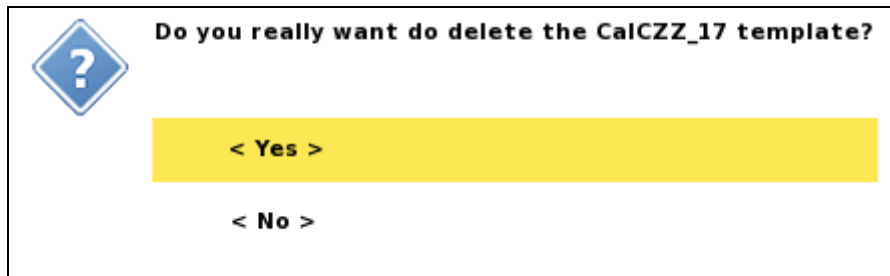

Figure 28. Confirm Template Delete dialog
- **Delete:** A confirmation dialog is shown (Figure 28) and the *Template* will be deleted if the user confirms the deletion